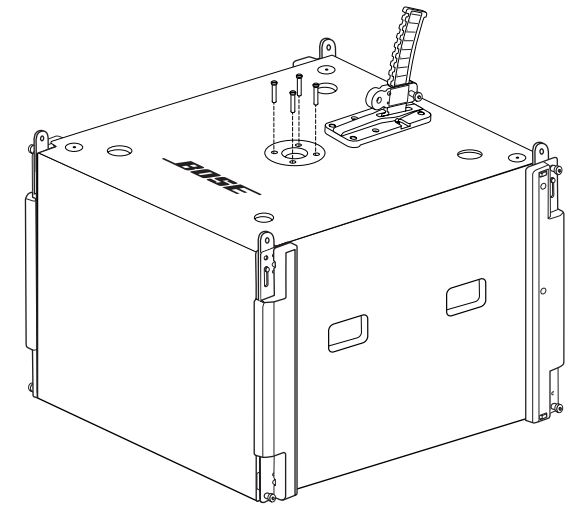

Fig. 5. Remove pole mount screws.
- Remove the four screws connecting the pole mount to the top of the subwoofer. Do not remove the actual pole mount; see Fig. 5.